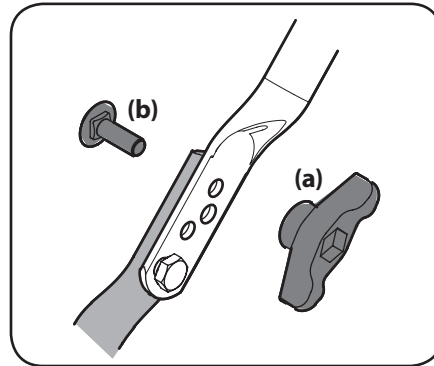

Figure 2-5
- On models with adjustable handles, place the handle in the desired position and then install wing knobs (a) and carriage bolts (b) in the appropriate hole and secure the handle. See Figure 2-5.